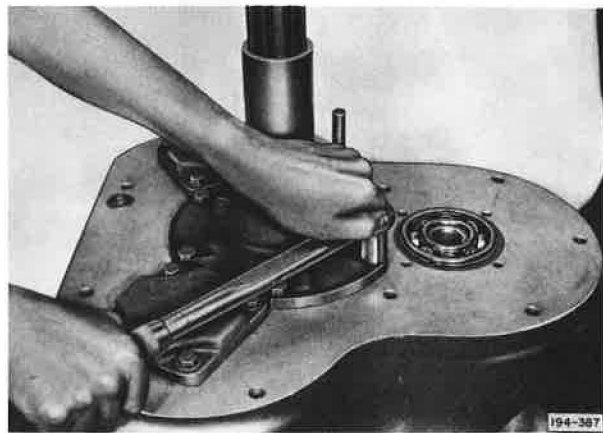

Figure 5-175. Torquing Compound Main Driving Pinion Cover Capscrews
20. Wipe the pump oil seal lip and the lip seat on the pinion shaft with transmission gear oil. (Dry running of sealing member on seat at initial start-up is detrimental and must be avoided). Carefully lower compound main driving pinion cover assembly down over the compound main driving pinion making sure that the lip of the oil seal and oil pump vane are properly positioned. Install cover capscrews and tighten to recommended torque. See Figure 5-175.